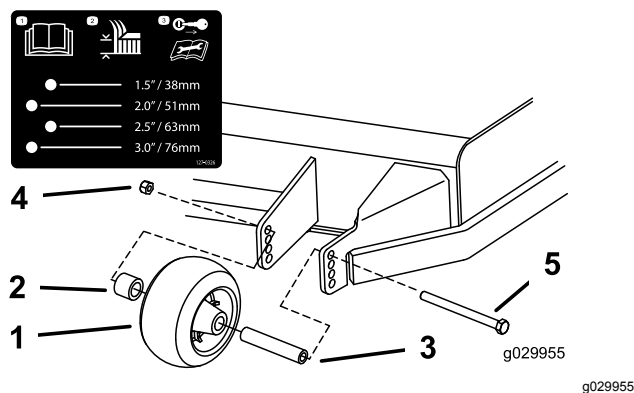
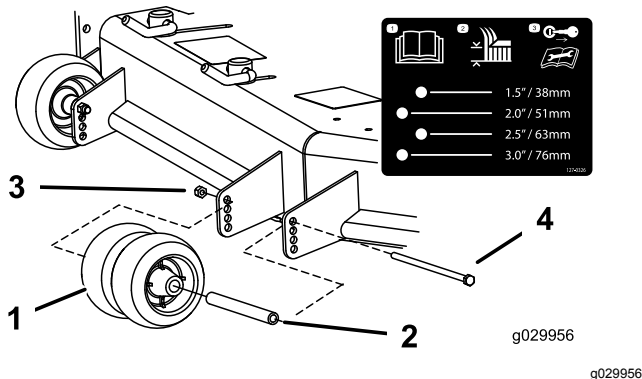
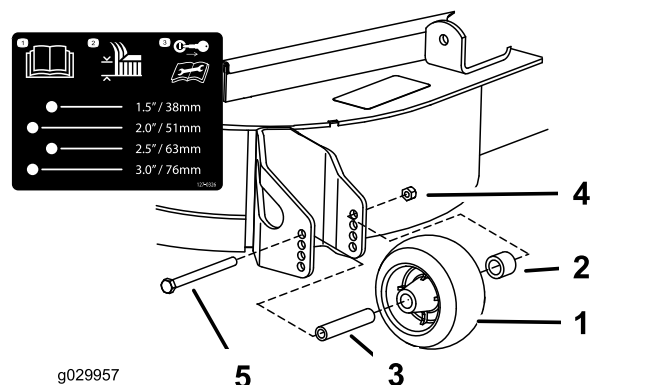

Figure 28
Figure 29
Figure 30
3. Adjust the anti-scalp rollers as shown in Figure 28, Figure 29, and Figure 30.